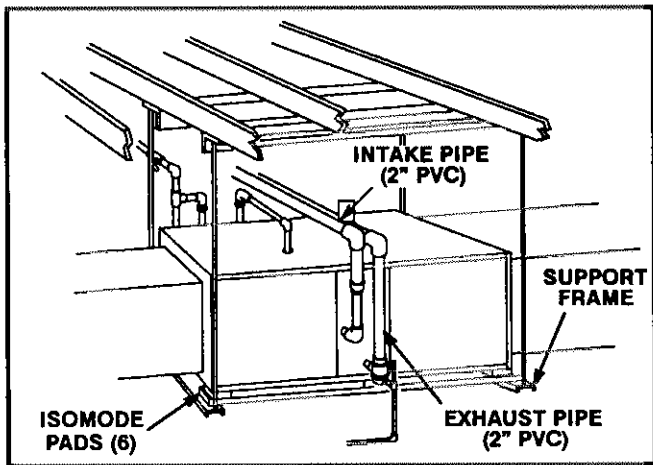

FIGURE 12
- 3- Install unit on support frame and slide isomode pads between cabinet and frame as shown in figure 12. Unit must be level to ensure proper coil drainage.